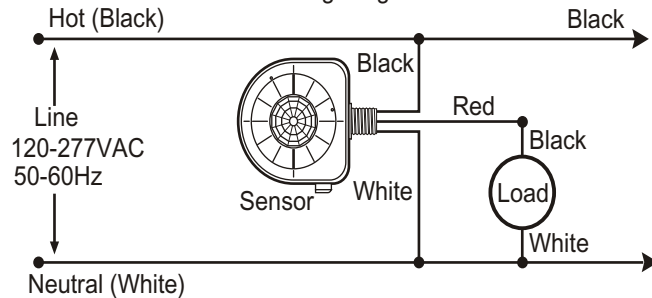
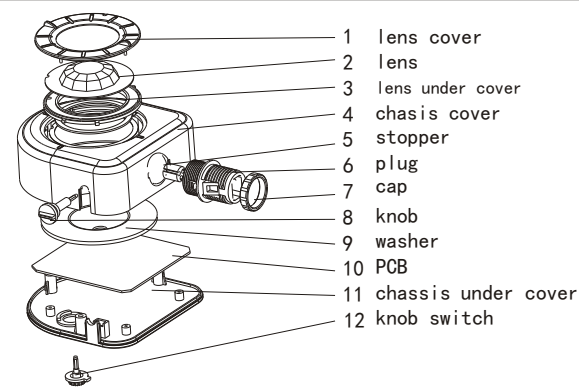
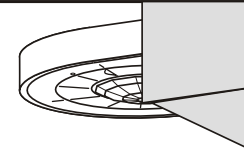

Figure 1A
Figure 2A
Figure 2B
NOTE: The ICUH-U-S sensor is supplied with three lens trim rings. The 360 degree High Bay lens (white color trim ring) is installed at the factory with the aisle lens (black color trim ring) and the 360 degree Low Bay lens (blue color trim ring) in the carton. Change the lens for use in aisle or Low Bay applications. See below for changing lens trim ring. The sensor mounts in a 1/2" knock out hole on the end of a luminaire or an electrical box. The Sensor's field-of-view may be partially obstructed by the luminaire housing (refer to Figure 2A). At higher mounting heights, the outer beams are not used. As long as the bottom of the sensor is mounted within 1" from the bottom of the luminaire, the field-of-view will not be affected (refer to Figure 2B).
SNAP FIT NOTE: The ICUH-U-S is designed with a snap fit to accommodate different packaging methods for customers who install this into a fixture prior to shipping (refer to Figure 1A). The Snap Fit is a keyed threaded adapter that snaps into the fixture and also into the motion sensor for optimum packaging positioning (Refer to Figure 2A & 2B). Also provided is a lock-nut on both ends of the snap fit that should be tightened.
3. Feed the sensor wire through the separator provided (Figure 1A & 2A & 2B & 3) on the luminaire or electrical box and into the wire access area.